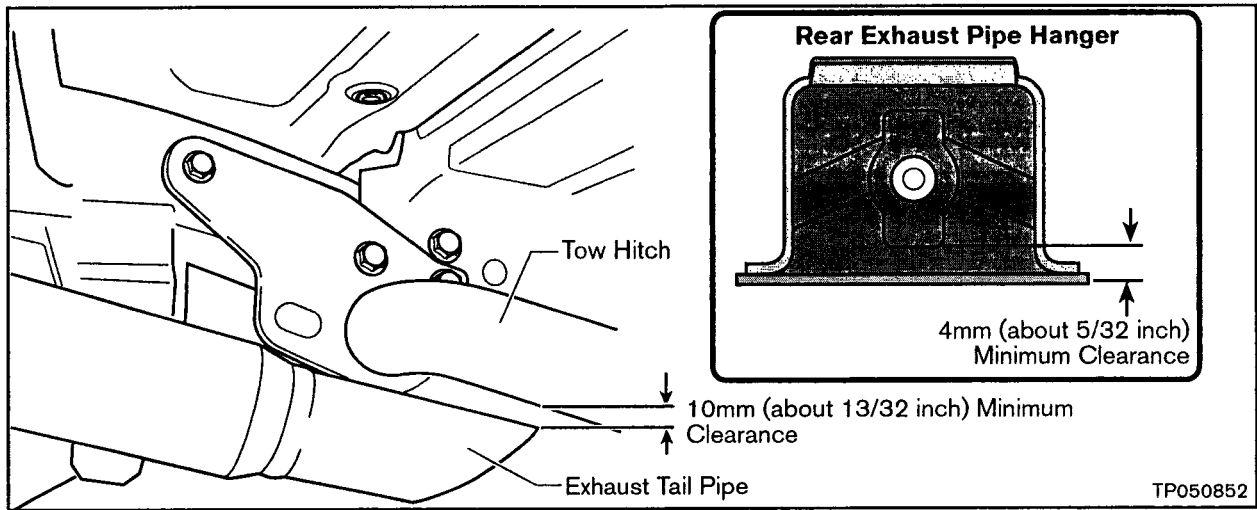

Figure B6
8. Make sure the clearance at the Rear Exhaust Pipe Hanger is at least 4mm (about 5/32 of an inch). See Figure B6.
9. Make sure the clearance between the Exhaust Tail Pipe Tip and the Tow Hitch is at least 10mm (about 13/32 of an inch). See Figure B6.